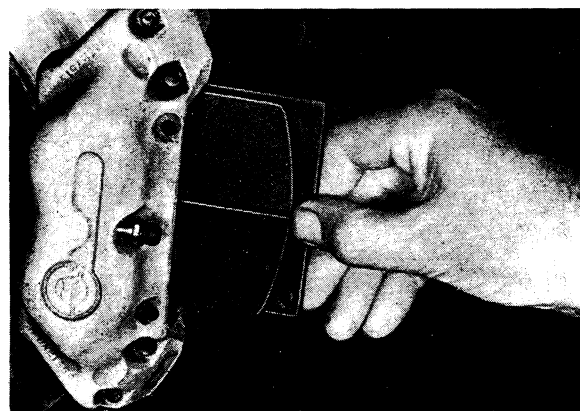

Fig. 5-16. Fitting brake pads
5. Fit the new pads, see Fig. 5-16. Fit one of the retaining pins in position, then the damping springs and finally the other retaining pin. Fix the pins with the retaining clips. Check that the pads are movable.